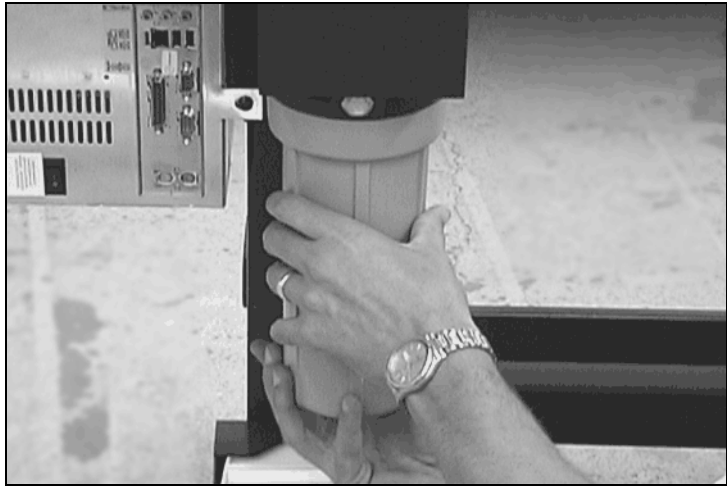

Fig. 1-8. Vacuum reservoir
30. Install the vacuum reservoir (see Fig. 1-8).